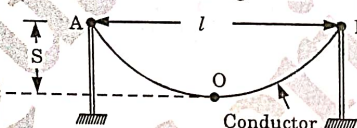

Fig. 3.1.1.
A. **Sag:** The difference in levels between point of support and the lowest point on the conductor is called sag. The sag is denoted by S as shown in Fig. 3.1.1.